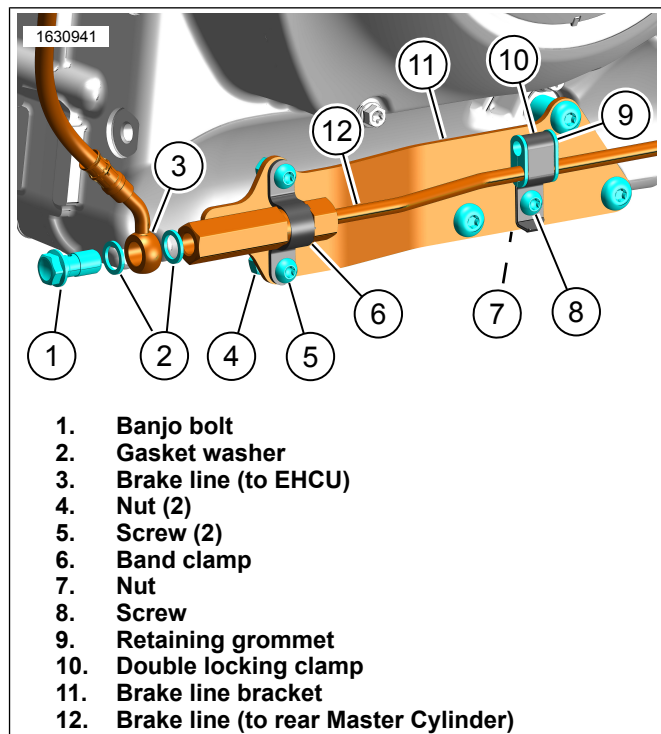

Figure 15. Banjo Bolt
1. See Figure 15. Install retaining grommet (9) and double locking clamp (10) around hard section of brake line (12).
- a. Use lower slot in retaining grommet (9) for brake line.
2. Position brake line (12) and clamp (10) on top of brake line bracket (11).
3. Install band clamp (6) around groove of brake line manifold.
9. See Figure 15. Install banjo bolt (1).
- a. Install **new** gasket washers (2).